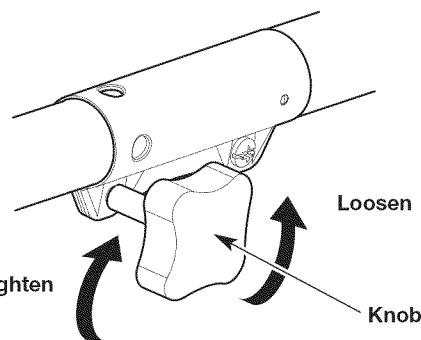

Fig. 4
3. Turn the knob counterclockwise to loosen the coupler (Fig. 4).
6. Turn the knob clockwise to tighten the coupler (Fig. 4).
2. Turn the knob counterclockwise to loosen the coupler (Fig. 4).
1. Turn the knob counterclockwise to loosen the coupler (Fig. 4). Refer to *Operating the Coupler* in the *Assembly* section.
4. Turn the knob clockwise to tighten the coupler (Fig. 4).